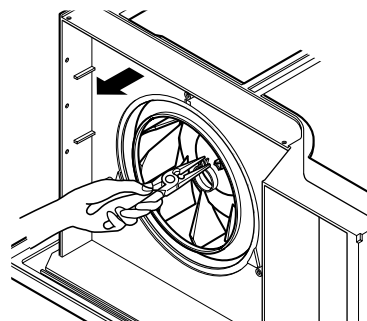

Figure 22
6. Remove the blower with plier or your hand without touching blades. (See Fig. 22)